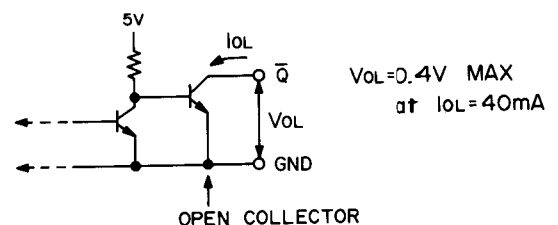

Figure 38-2
5.2.3 Output Circuit (Refer to Figure 38-2)